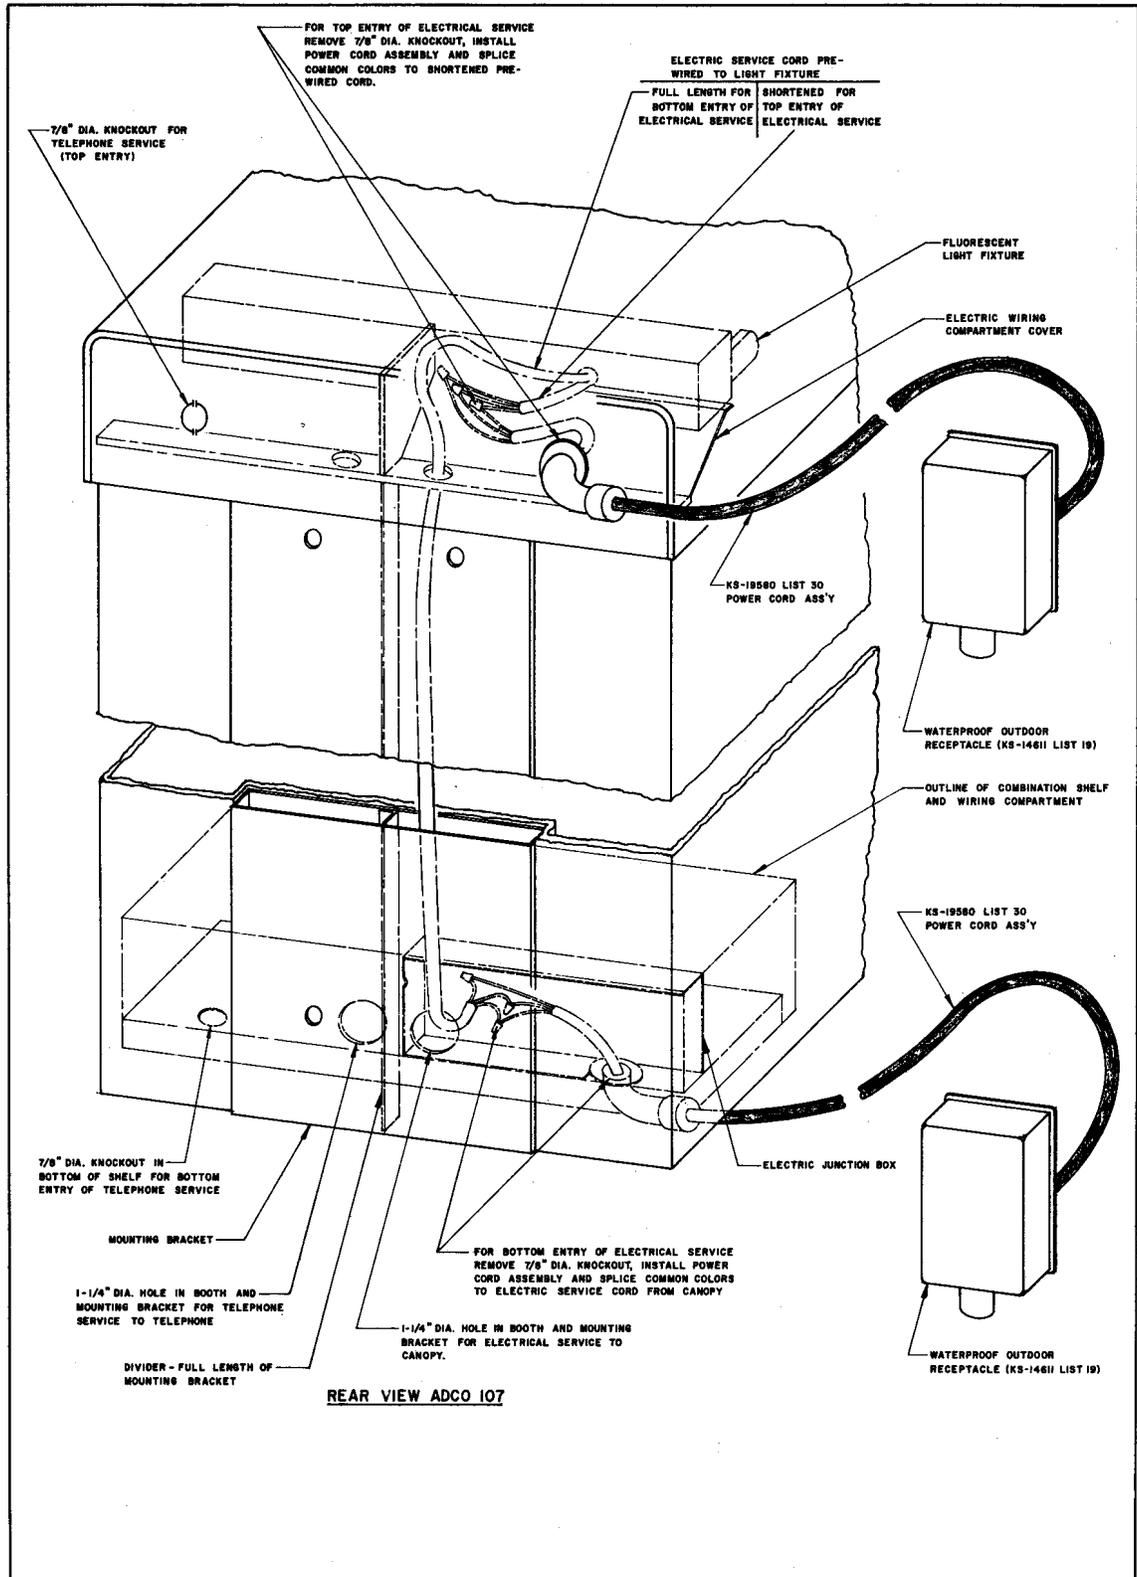

Fig. 7
5.02 A typical electrical connection to the housing is shown in Fig. 7.